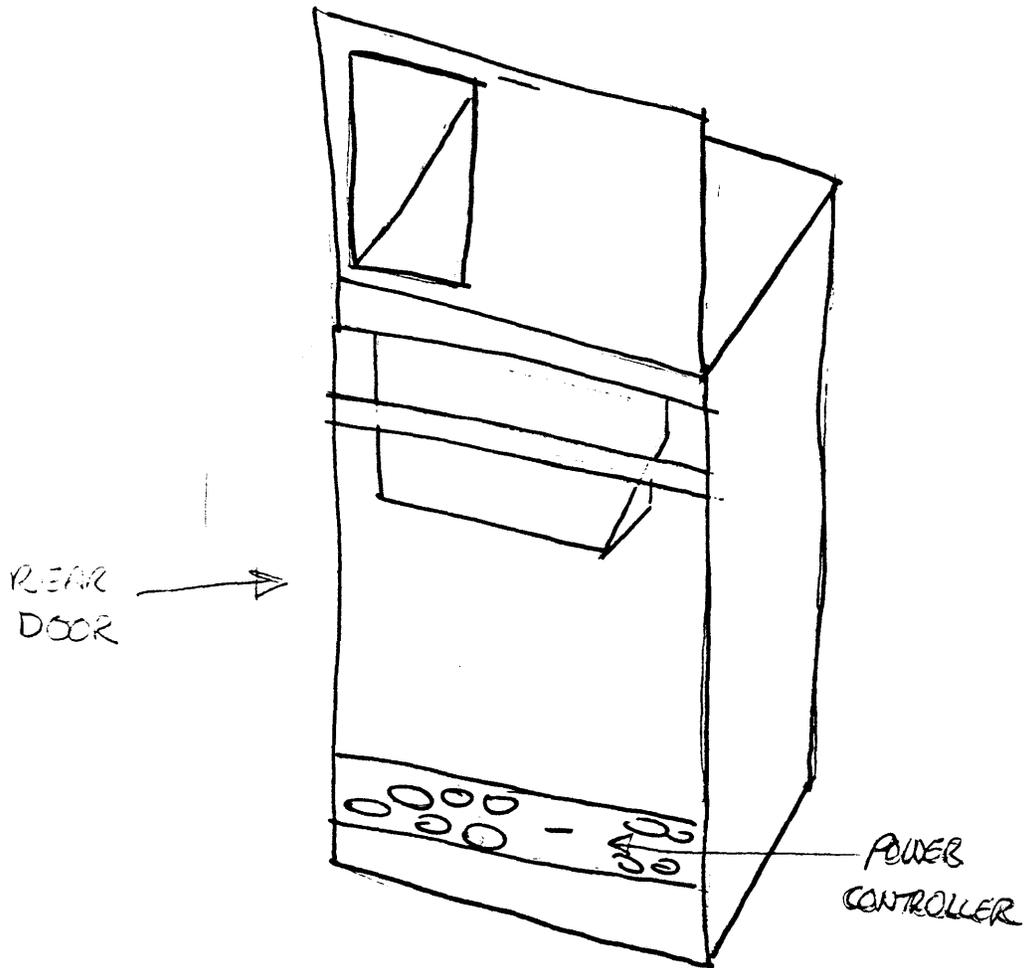

Figure 2 TU80 Major Assemblies (Rear)
- _____ Open the rear door of the TU80 (Figure 2). You may need a corporate cab key if this door is locked.